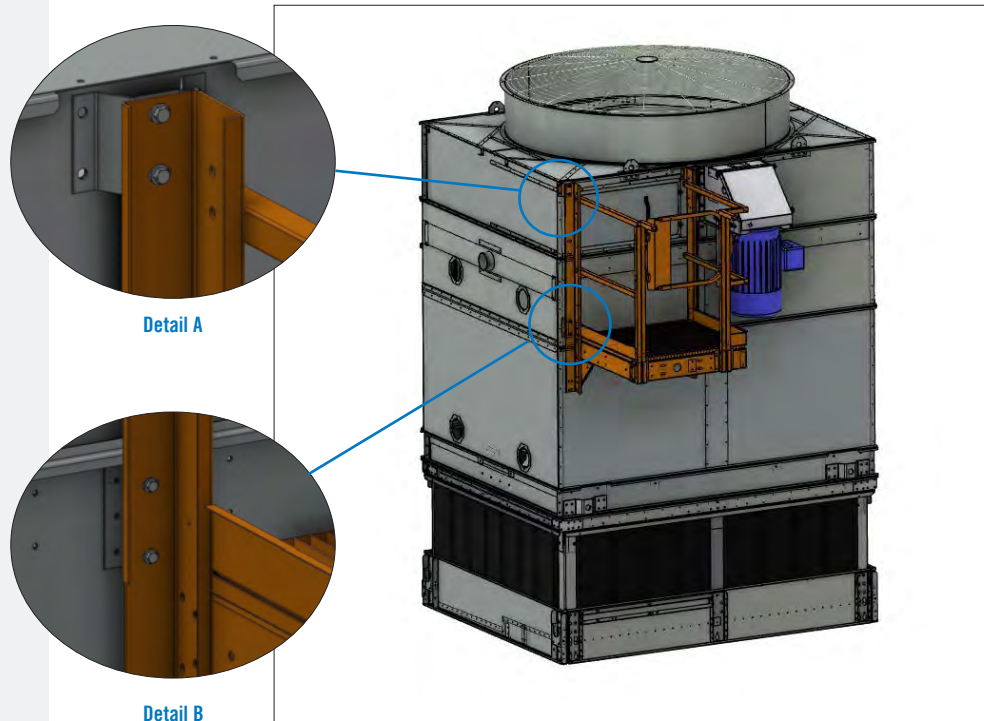

Figure 34. Mechanical Access Platform – PFi/PCC-0709
Refer to Figures 34 to 38 for your particular unit.
1. Lift the platform module(s) into place and secure to the unit at the locations indicated in **Figures 34 to 38, Details A and B** using the 3/8" x 1 1/4" bolts provided.